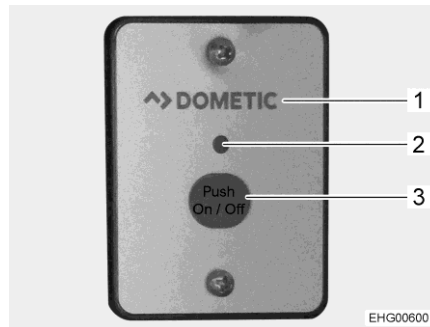

Fig. 149 External switch (AC converter)
The external switch (Fig. 149,1) is installed in the wall-mounted cupboard above the table.
- Press "On/Off" button (Fig. 149,3). The LED (Fig. 149,2) is on.
- Press "On/Off" button (Fig. 149,3). The LED (Fig. 149,2) goes out.